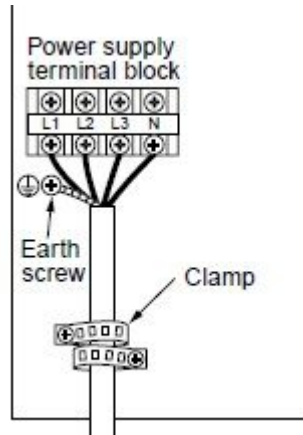
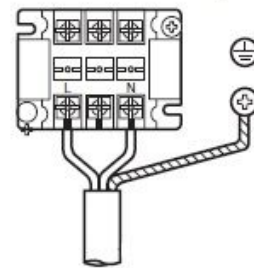

Fig 1
Fig2
- 1) Confirm that the power supply at each outdoor unit is correct, three phase and neutral 380 – 400 volts 50 Hz AC, SMMS/SMMSi/SMMSe & SHRM/SHRMi/SHRMe (Fig 1).
- 2) Single phase 220 – 240 50 Hz AC, Mini-SMMS/SMMSe (Fig 2) (4, 5 & 6hp) units, three phase and neutral 380 – 400 volts 50 Hz AC, (fig 1) (8 & 10hp).